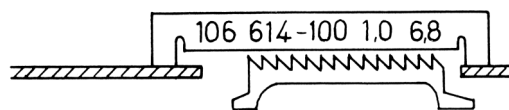

Fig. 14
At the highest feed dog position, the tips of the feed dog teeth must protrude above the needle plate surface by 0.9 mm (fig. 14).
- Place bridge gauge (01-066141-00) over the feed dog on the needle plate (fig. 14).